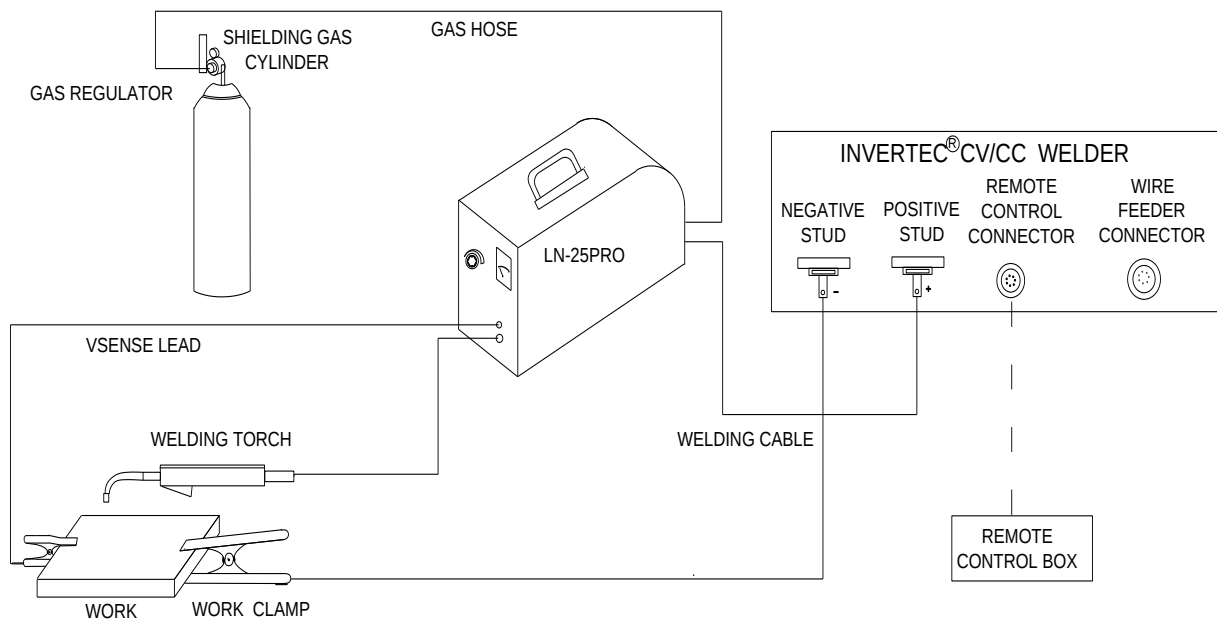

FIGURE A.4
2. LN-25 PRO FEEDER (FIGURE A.4)